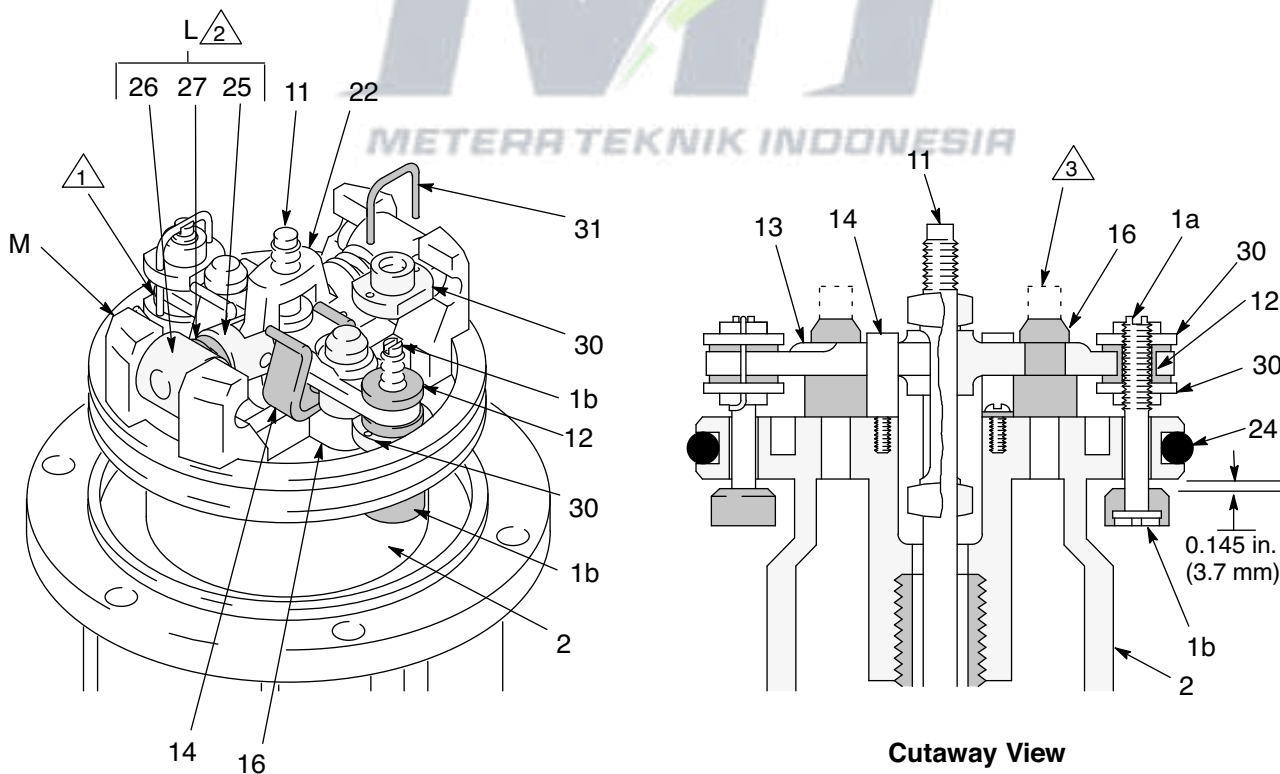

FIG. 5
9. Use a screw driver to push down on the trip rod yoke (22), and snap the toggles down. Remove the lockwires (31) from the adjusting nut (30) of the transfer valves. Screw the top nuts off. Screw the stems (1a) out of the grommets (12) and bottom nuts. Take the valve poppets (1b) off the stems and squeeze them firmly to check for cracks. (FIG. 5)
10. Grip the toggle rockers (26) with a pliers. Compress the springs (27), and swing the toggle assembly (L) up and away from the piston lugs (M), and remove the parts. Check to see that the valve actuator (13) is supported by the spring clips (14), but slides easily into them. (FIG. 5)
11. Remove the trip rod yoke (22), actuator (13), and trip rod (11). Check the exhaust valve poppets (16) for cracks.
- NOTE:** To remove cracked exhaust valve poppets (16), stretch them out, and cut them with a sharp knife.
12. Remove one of the air motor plates (18 or 20). Pull the piston (2) up out of the base (5). Remove the throat packing nut (38) and throat seal (6).
6. Pull the exhaust valve poppets (16) into the value actuator (13), and clip off the top part shown with dotted lines in FIG. 5.
7. Install the transfer valve grommets (12), and reassemble the valve mechanism. Before installing the lockwires (31) in the adjusting nuts (30), use the special gauges, 171818, to adjust the transfer valve so there is 0.145 inches (3.7 mm) clearance between the poppets (1b) and the seat when it is open. Snap the toggles (25) to the up position. (FIG. 5)
8. Reassemble the air motor, and assemble to the displacement pump. Torque the extensions tube (64) to the base (5) at 45 to 55 ft-lbs (61 to 75 N.m). Before installing the air motor plate, tighten the throat packing nut (38) snugly; do not overtighten it.